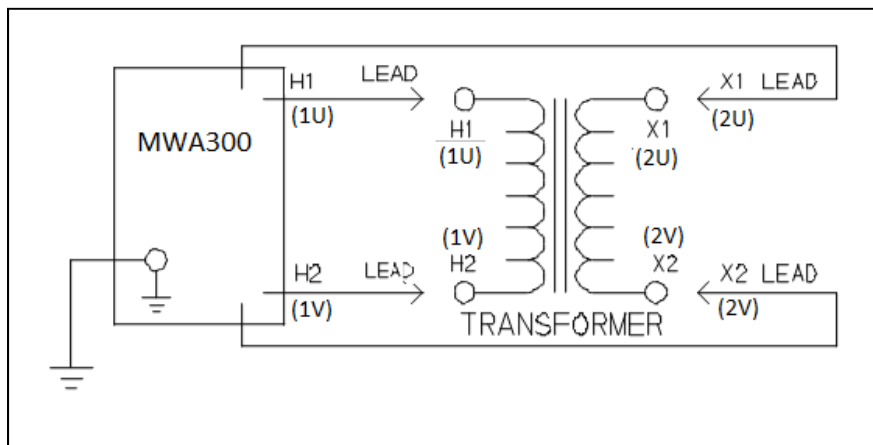
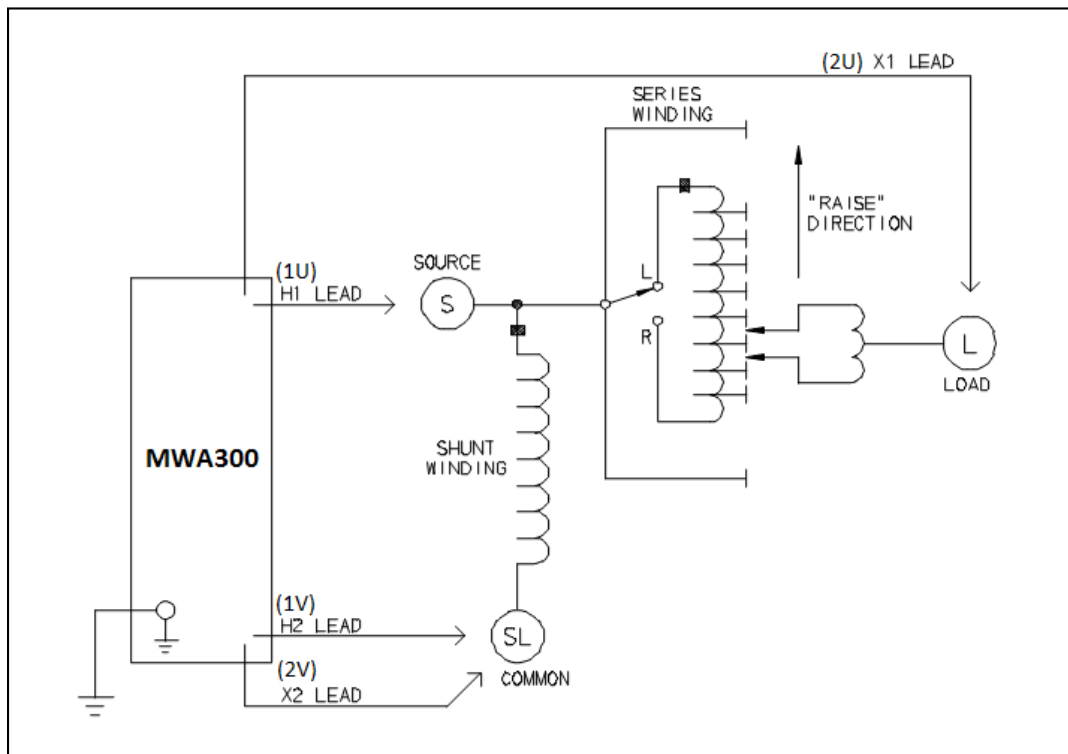

Figure 6-1 Setup for Testing Single-Phase Transformer (Vector Diagram 1P0)
Figure 6-3 Setup for Testing Single-Phase, Type A (Straight Design) Step Voltage Regulator (Vector Diagram **VREG**)
1. Connect the heavy-duty clamps marked H1(1U) and H2(1V) & X1(2U) & X2(2V) of the test lead to the corresponding (high-voltage and low-voltage windings) terminals of the transformer under test. Figures 6-1 and 6-2 show test setups for Single-Phase Transformers. Figures 6-3 and 6-4 show test setups for Regulators. Figure 6-5 shows connections to a Pole Type Transformer with 2 secondary windings.